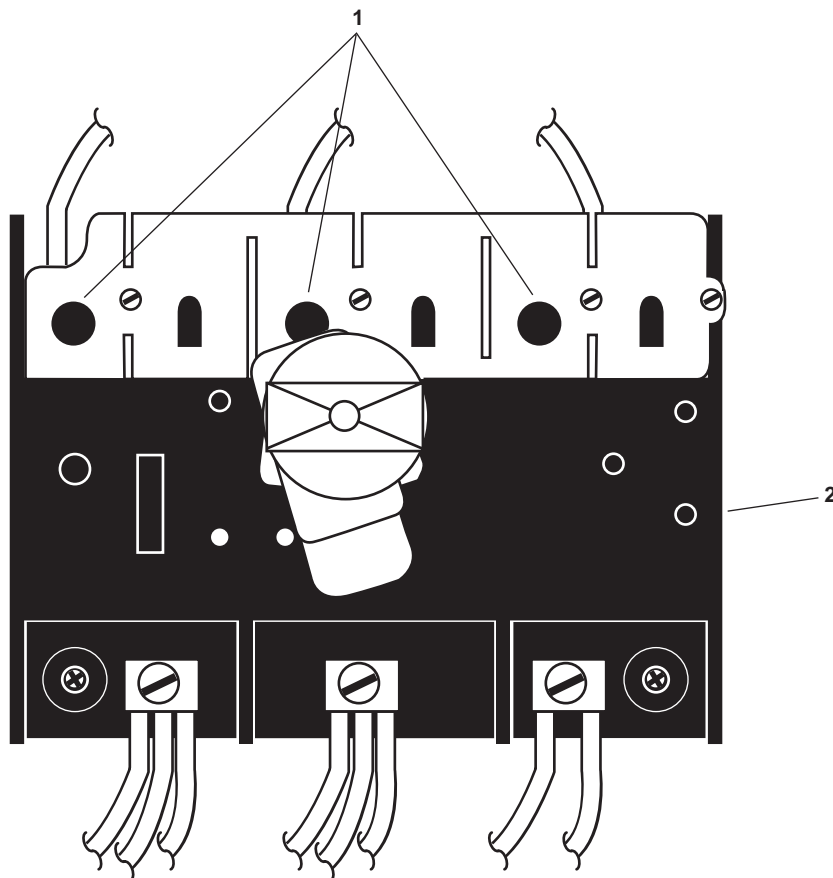

Figure 2. MSD Interrupt Contactor
4. Use a multimeter to check for voltage at the line side (figure 2, item 1) of the interrupt contactor (figure 2, item 2). If voltage is present, ensure that the proper breaker is secured, locked out, and tagged out (FM 55-502). If no voltage is present, continue with the appropriate repair procedure below.